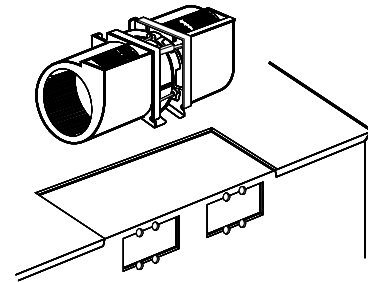

Figure 18
- (1) When mounting the door assembly to the oven assembly, be sure to adjust the door assembly parallel to the chassis. Also adjust so the door has no play between the inner door surface and oven frame assembly. If the door assembly is not mounted properly, microwaves may leak from the clearance between the door and the oven.
- (3) Carefully pull the ventilation motor ASS'Y out of the microwave oven. (See Figure18)